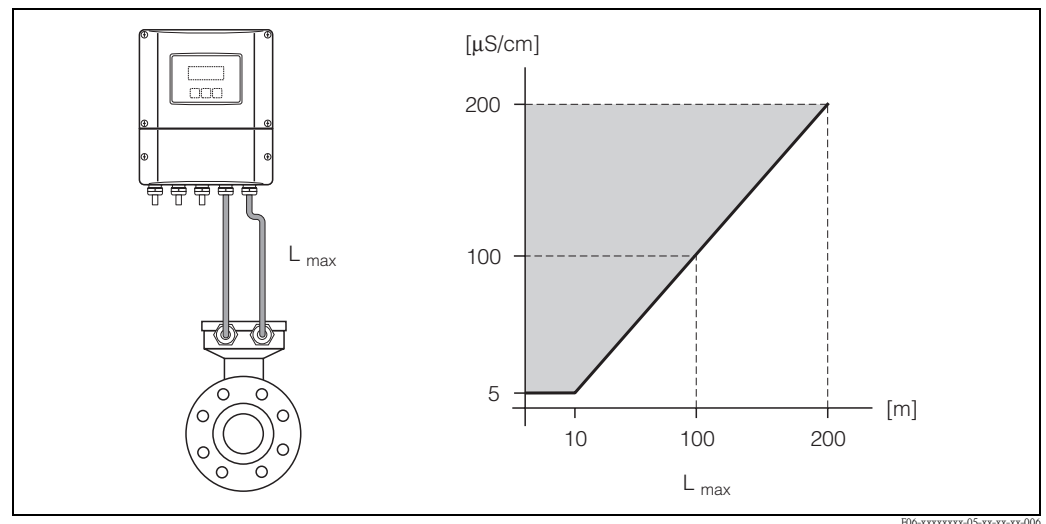

Fig. 17: Permissible cable lengths for the remote version
- The permitted length of connecting cable  $L_{\max}$  depends on the fluid conductivity ( $\rightarrow$  Fig. 17). A minimum conductivity of  $20 \mu\text{S}/\text{cm}$  is required for measuring demineralized water.